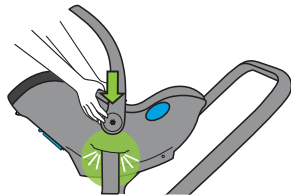

Figure 75
- Push down on each side of the Carrier to lock onto each adapter, as shown in **Figure 75**.